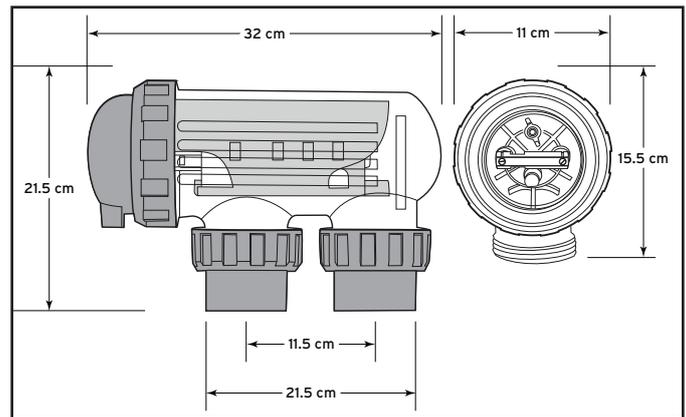
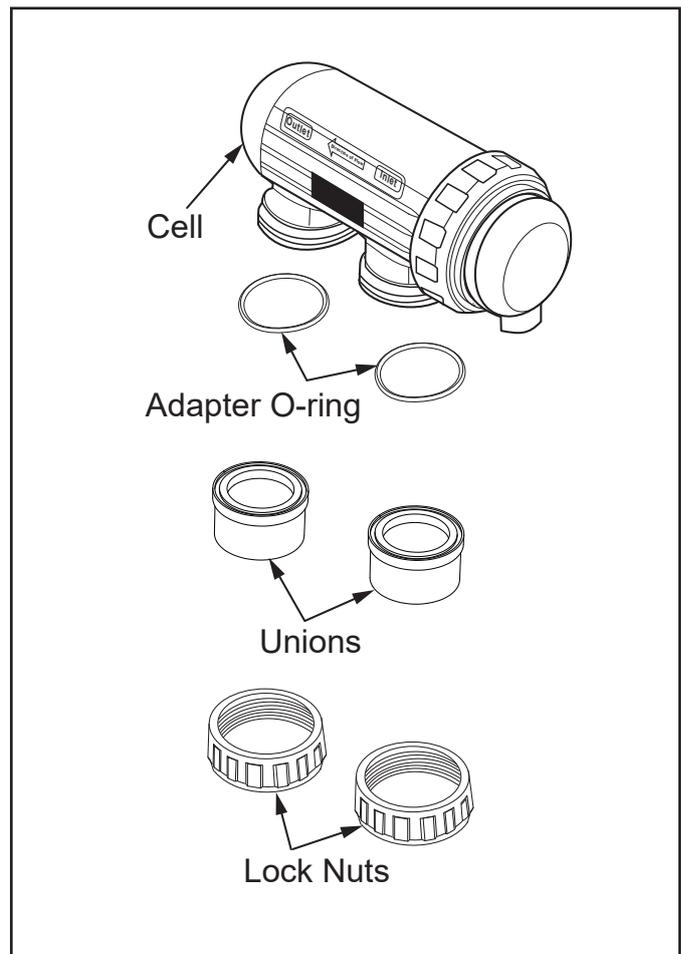

Figure 2. Electrolytic Cell Dimensions
Figure 4. Cell Plumbing Assembly
2. Plumb the cell inlet and outlet on vertical lengths of 50 mm PVC pipe (if using 40mm pipe, use the provided 40mm reducers). The cell inlet and outlet ports are 11.5 cm apart, see Figure 2. The inlet of the cell is on the side closest to the electrical lead, see Figure 4.
3. Put the lock nuts onto the inlet and outlet pipes in the correct orientation, see Figure 4.